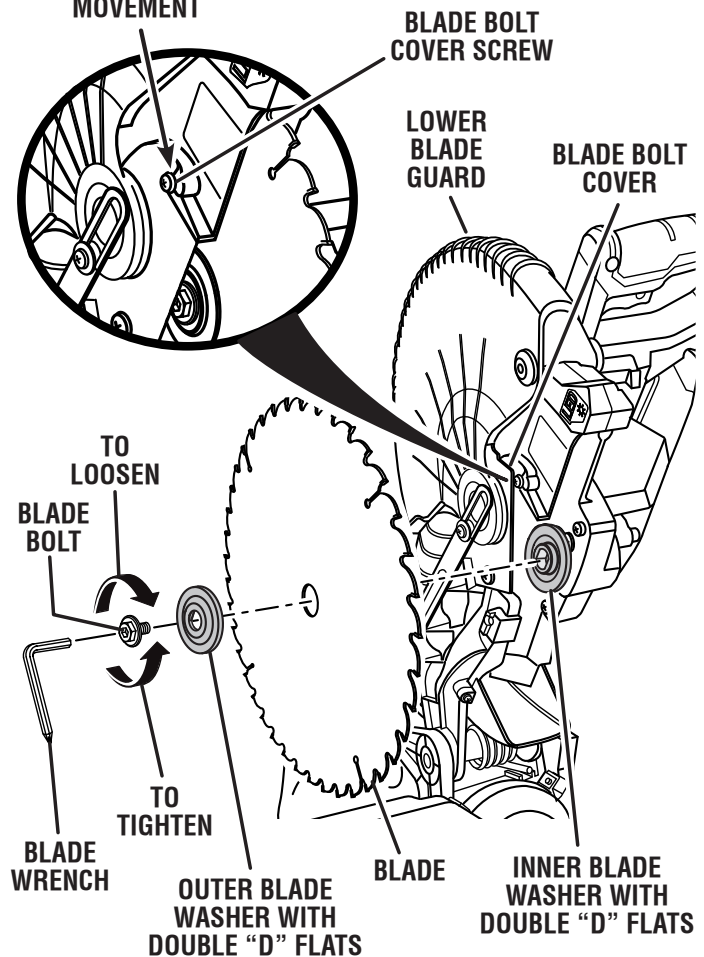

Fig. 13
See Figure 13.
- Fit saw blade inside upper blade guard and onto shoulder of inner washer. The blade teeth point downward at the front of saw as shown in figure 13.